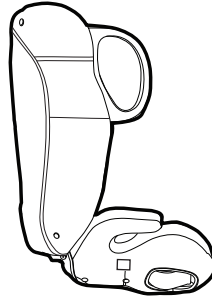

Figure 1.1
- Step 1:** Unclip the press studs on the side of the seat base (refer Figure 1.1).